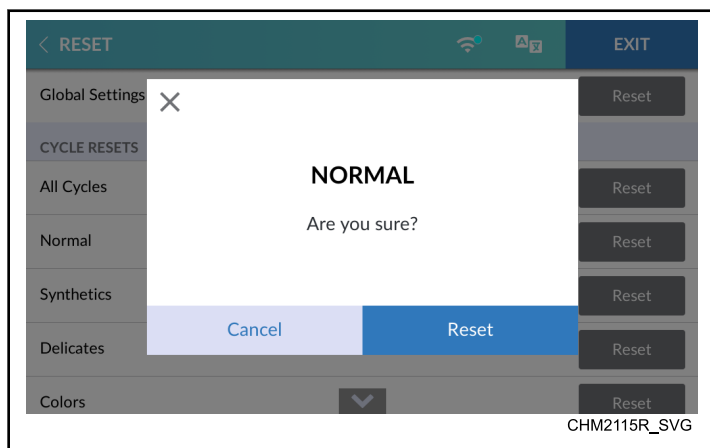

Figure 53
4. Touch RESET next to the item to be reset. The display shows the Reset Confirmation Menu. Refer to *Figure 53*.